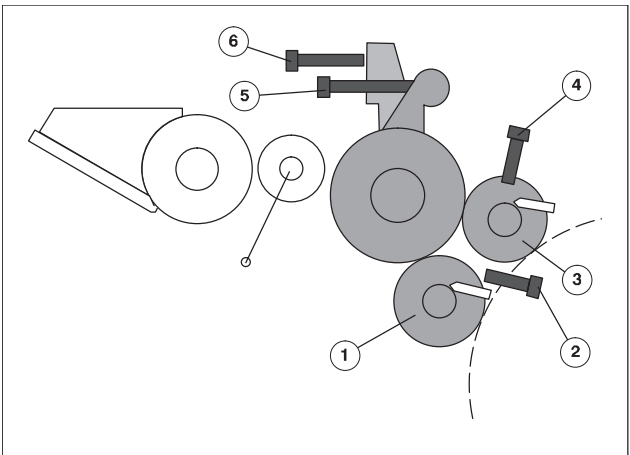

Fig. 36 Adjusting the inking form rollers
2. **Upper inking form roller** (Fig. 36/3): turn pink adjusting screw (Fig. 36/6) clockwise: the contact pressure relative to the numbering boxes increases.
3. **Lower inking form roller** (Fig. 36/1): turn orange adjusting screw (Fig. 36/5) clockwise: the contact pressure relative to the numbering boxes decreases.